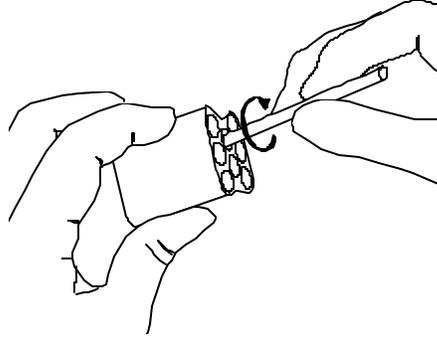

Figure 7: Relubricating 1250 - 250 uL Pipettors
- **1250 uL, 850 uL, 250 uL Pipettors:** Use the wooden applicator and O-ring lubricant supplied in the Autoclave Kit to apply a thin layer of lubrication approximately 0.5 inches (approx. 1.3 cm) down into each piston hole that requires it. Spread the lubricant evenly along the inner wall of each piston by using a circular motion with the wooden applicator (see Figure 7).